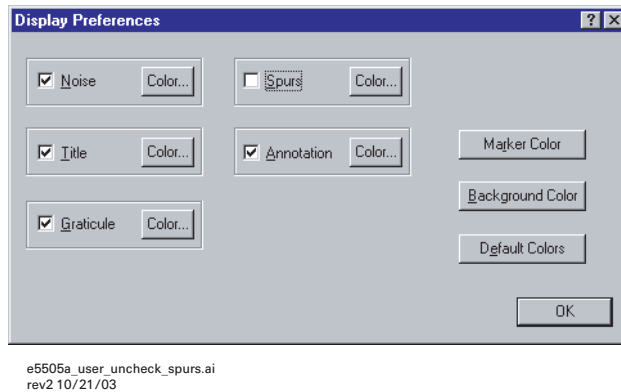

Figure 63 Uncheck spurs
- 2 In the **Display Preferences** dialog box, uncheck **Spurs** and click **OK**. See Figure 63.